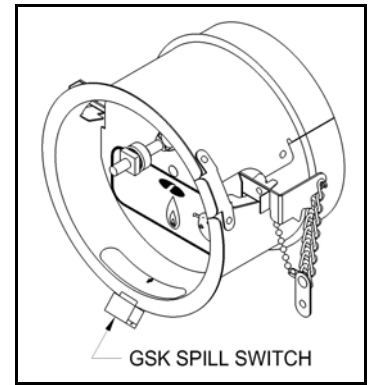

Figure 7
## DRAFT CONTROLS (See Figures 7 & 8)
1. Locate the spill switch along the bottom edge of the draft control ring. (See Figure 7) Mark and drill a 5/32" dia. hole through the ring.